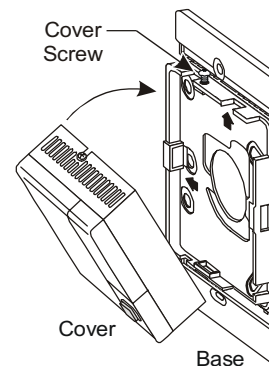

Figure 2: Attaching the Cover to the Base
4. Place the bottom edge of the cover against the bottom lip of the base, and rotate it up onto the base as shown in Figure 2.
7. Place the bottom edge of the cover against the bottom lip of the base, and rotate it up onto the base as shown in Figure 2.